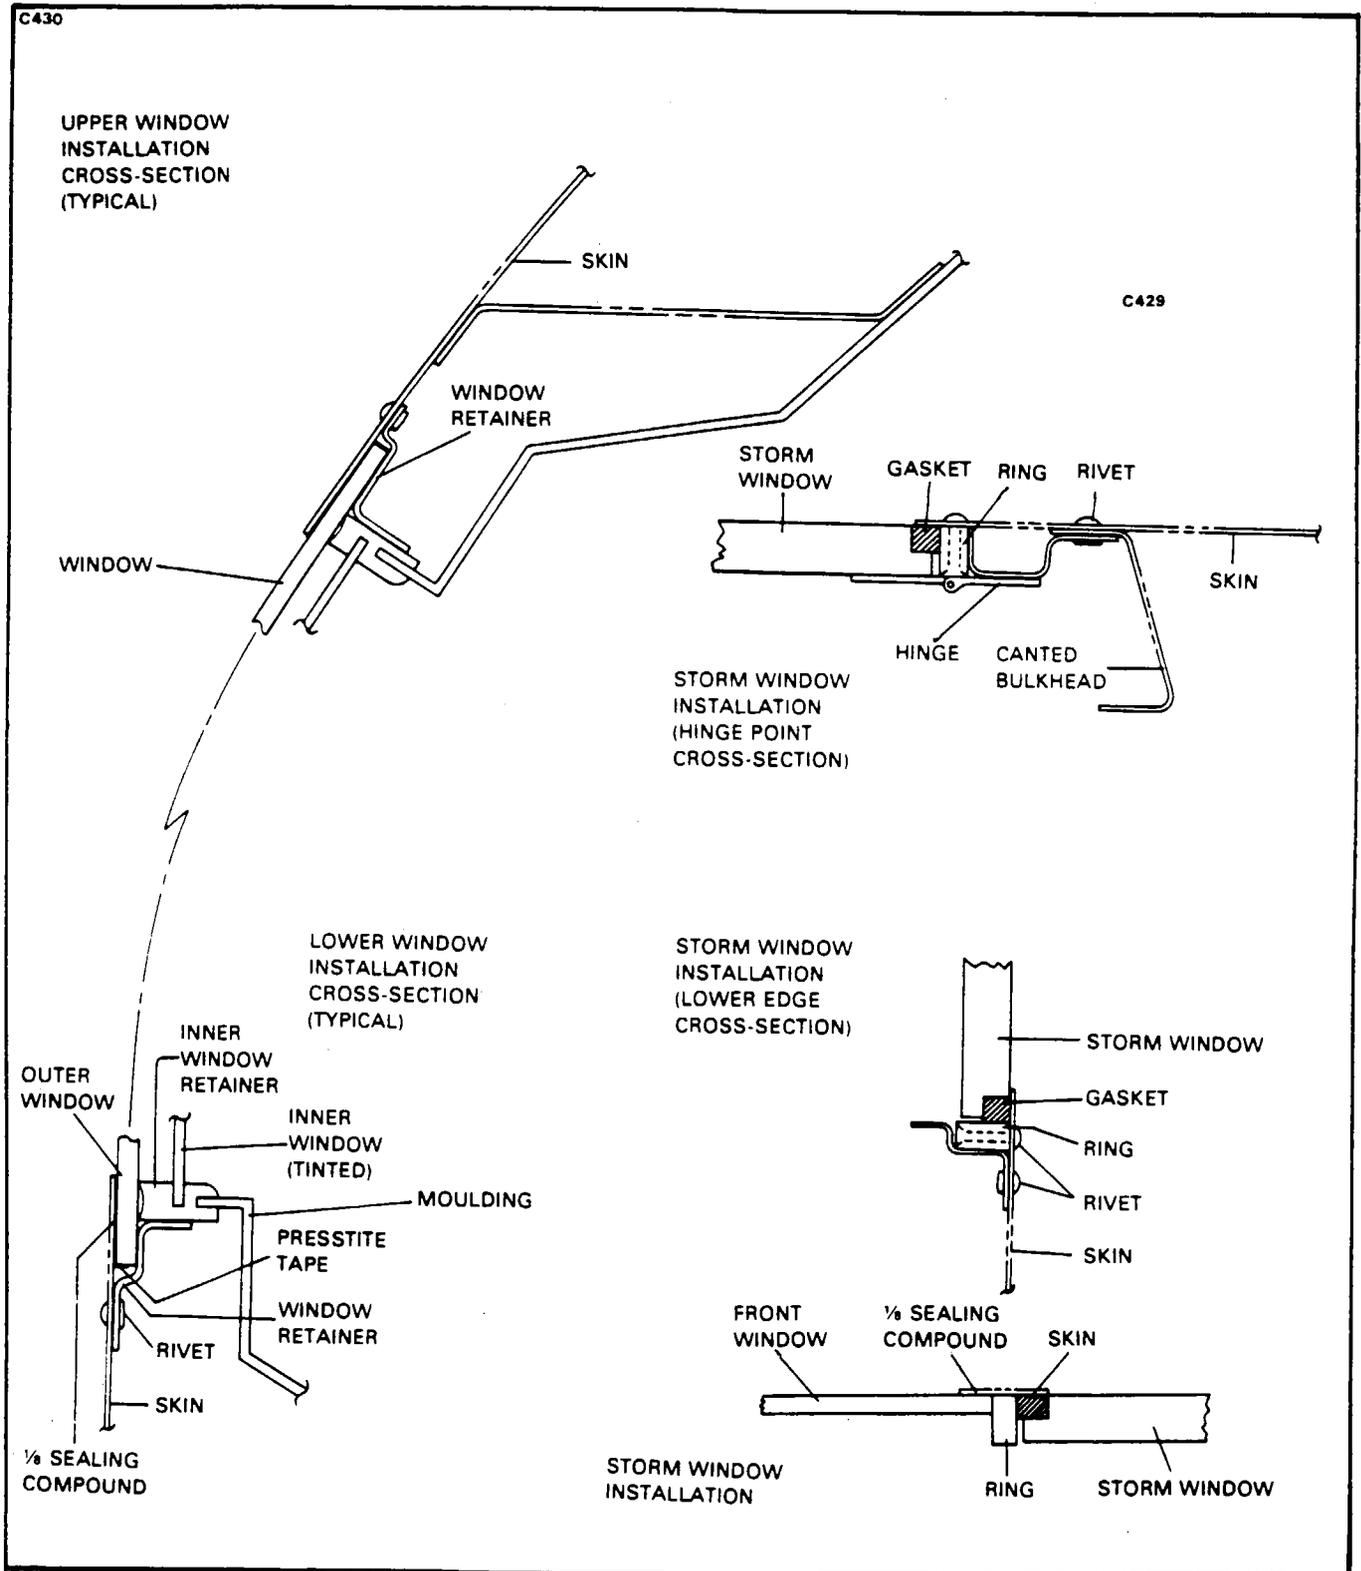

Figure 56-3. Storm Window and Side Window Installations
**INSTALLATION OF SIDE WINDOWS. (Refer to Figure 56-3.)**
2. Apply 1 32" x 3 16" Presstite No. 163 tape over the window edge as in Figure 56-3.